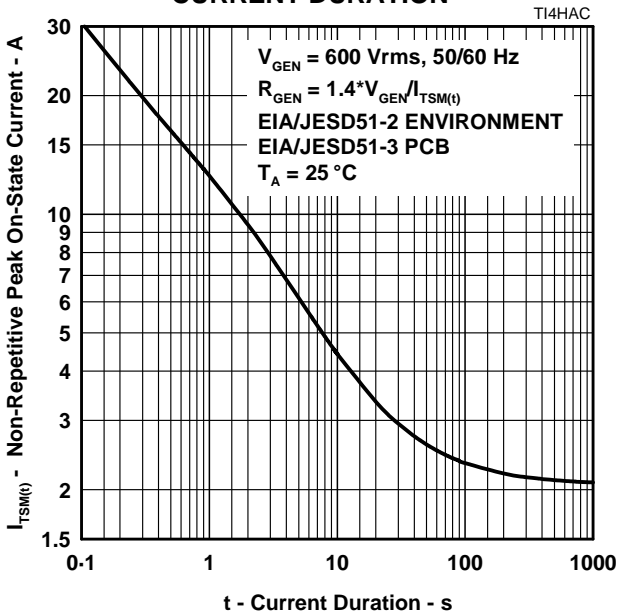

Figure 6.
4. EIA/JESD51-2 environment and EIA/JESD51-3 PCB with standard footprint dimensions connected with 5 A rated printed wiring track widths. See Figure 6 for the current ratings at other durations. Derate current values at $-0.61\text{ \%}/\text{°C}$ for ambient temperatures above 25 °C .